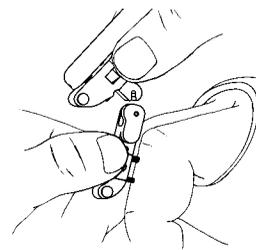

Fig. 2
3. Rotate the Connector Assembly by lifting the wrist end up away from the hand until it snaps off the Pin Block at the Pivot. Support the Pin Block to prevent the unsnapping force from being felt at the bone pins (Fig. 2).